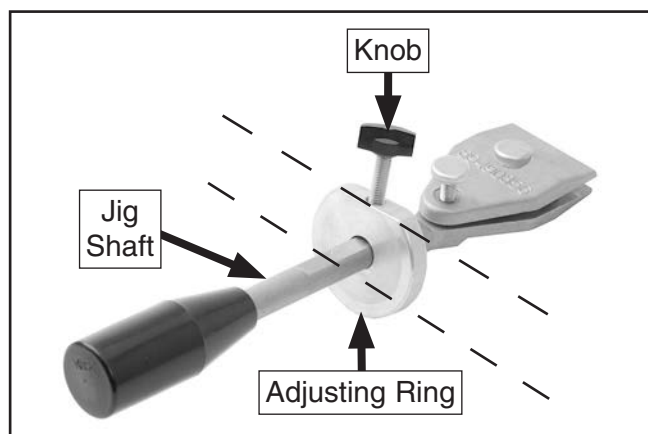

Figure 3. Adjusting ring secured correctly on jig shaft (T32797 shown).
1. Rotate adjusting ring on jig shaft so flat portions shown in **Figure 3** are aligned.
2. Tighten adjusting ring knob until adjusting ring is secure on jig shaft (see **Figure 3**).